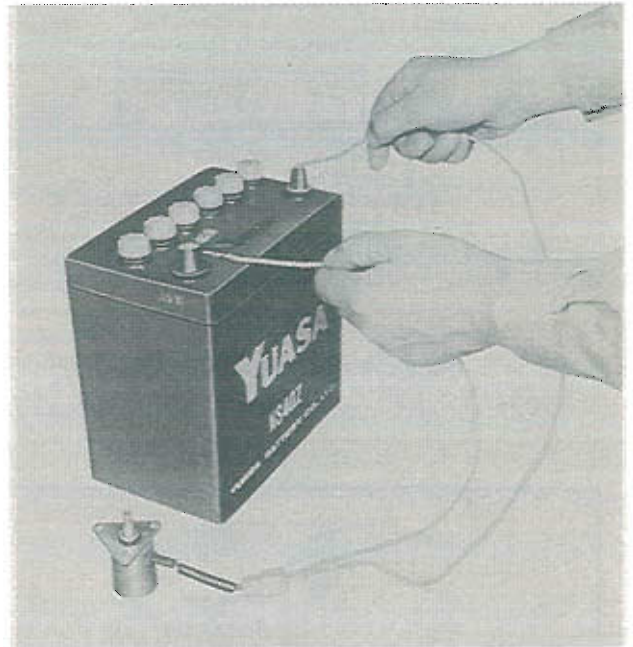

Fig. 4-15 Checking of coasting richer
12. Check whether the coasting richer is attracted when the solenoid wires are connected to the battery terminals as shown in Fig. 4-15.